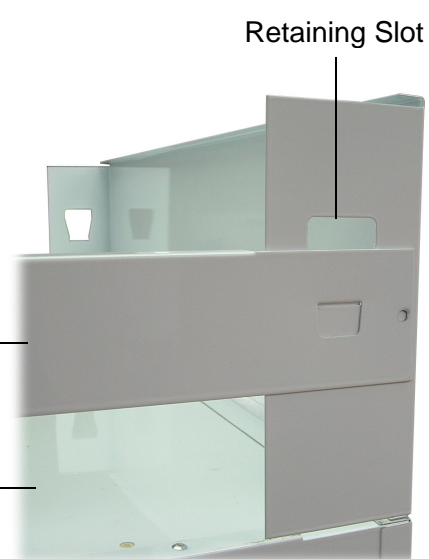

Figure 3: Sign Rear Panel
3. Fit the sign rear panel across the back of the sign side panels by clipping each end tag into the retaining slot in the side panels (see Figure 3 below).